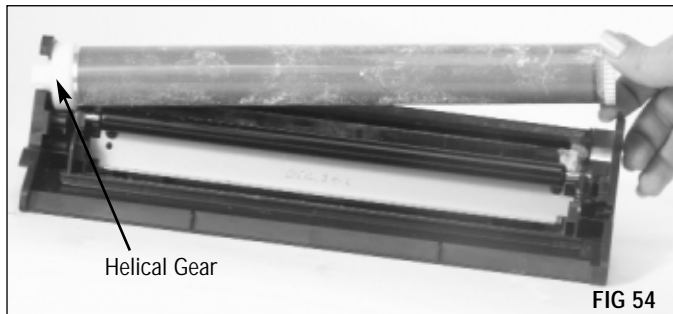

FIG 54
- 12.** Install the drum. Position the drum in the waste bin with the helical gear on the left (FIG 54).